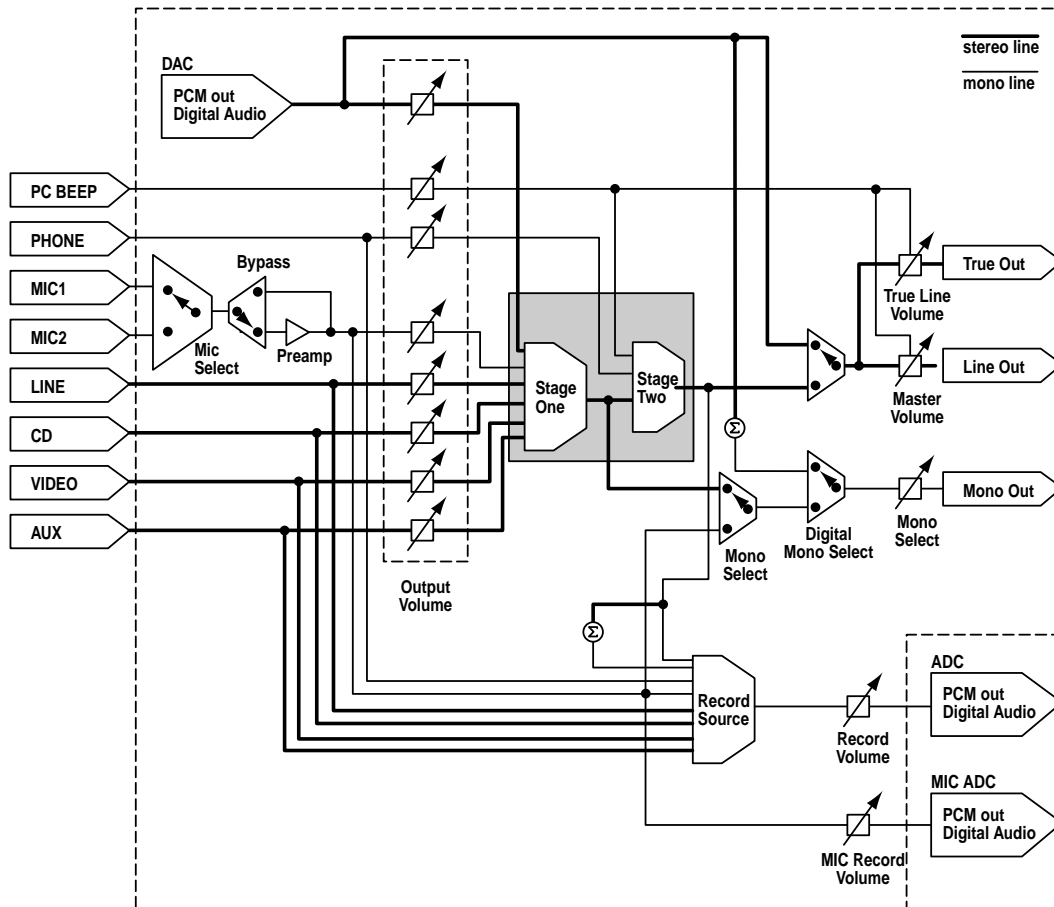

Figure 6-3. ESS1921 Mixer Block Diagram
- **Playback Mixer**—eight input stereo mixer, shown in Figure 6-3. Each of these inputs except PC_BEEP has 5-bit volume control: